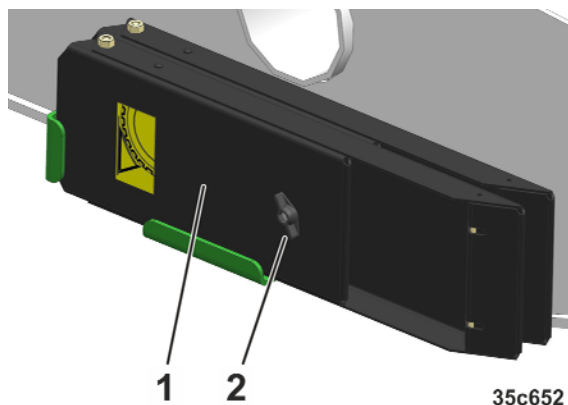

Fig. 113
18. Stow the wheel chocks (Fig. 113/1) in the brackets and secure with a wing nut (Fig. 113/2).